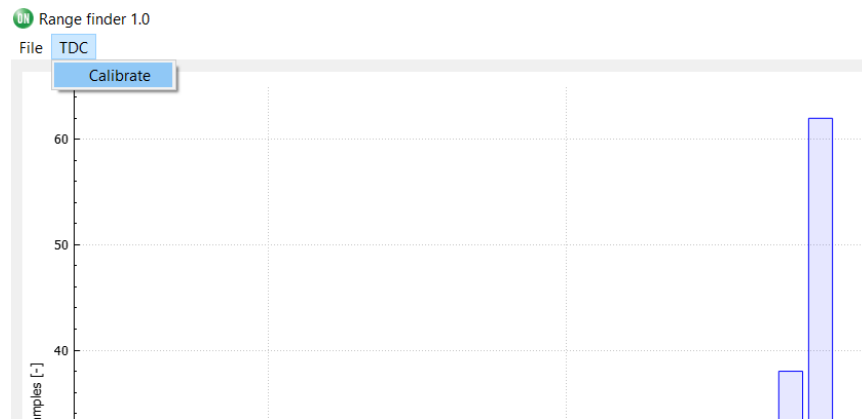

Figure 30. TDC Calibration Activation
- TDC is normally calibrated automatically once the PC application is launched or if SW Reset button is pressed. The easiest way to re-calibrate the TDC is pushing the Calibrate button under the menu as shown in Figure 30.